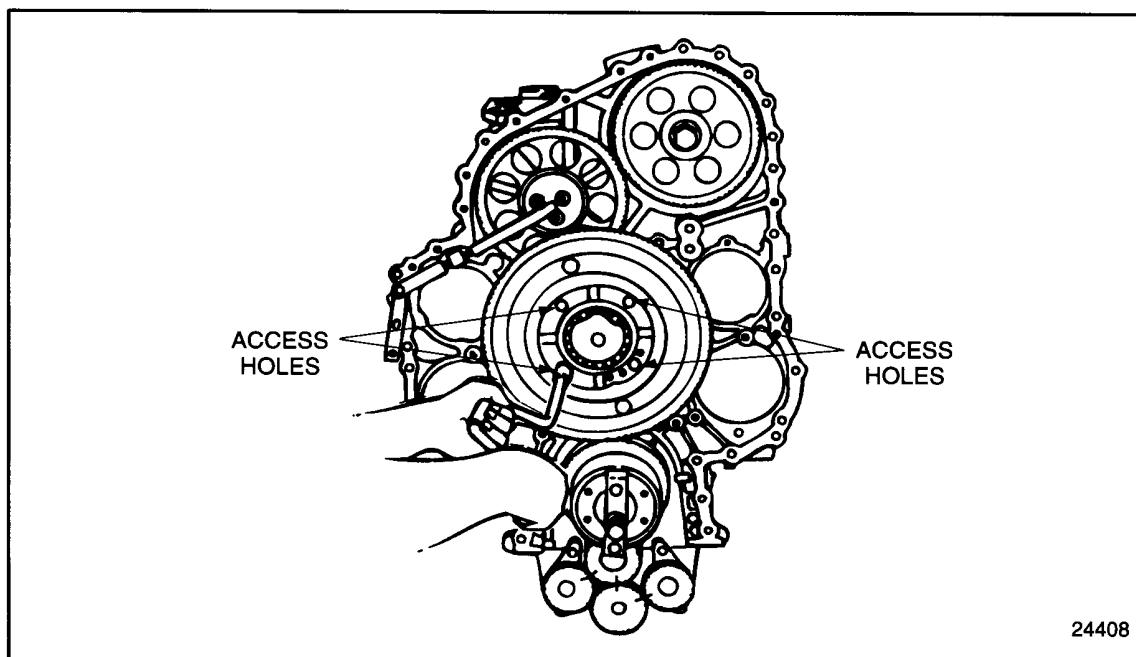

Figure 1-348 Removing Bull Gear Assembly Retaining Bolts
3. Working through the four access holes in the bull gear carrier, loosen and remove two of the four bolts that secure the bull gear assembly to the cylinder block. See Figure 1-348.